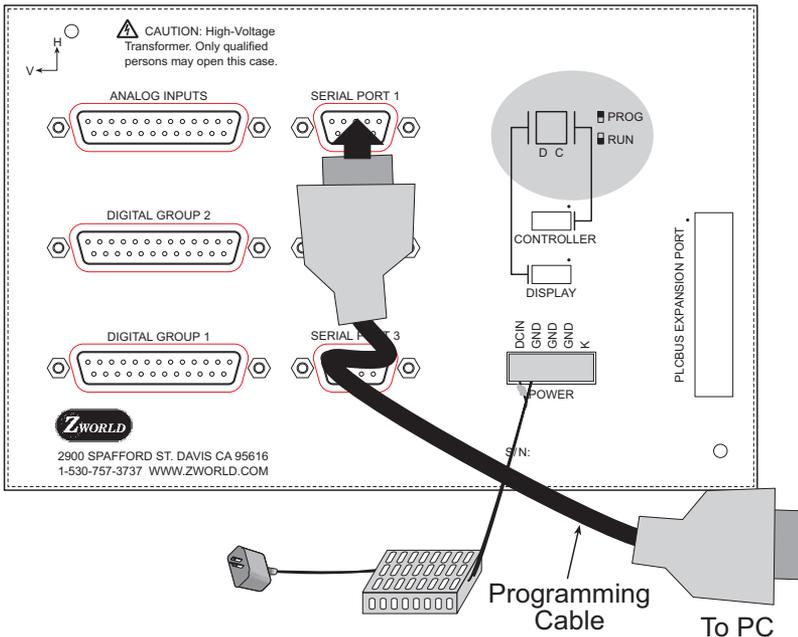

Figure 2-4. PK2600 Serial Port 1 Programming Connections
2. Connect the DE9 to DE9 programming cable from **SERIAL PORT 1** on the PK2600 to the appropriate COM port of your computer as shown in Figure 2-4.